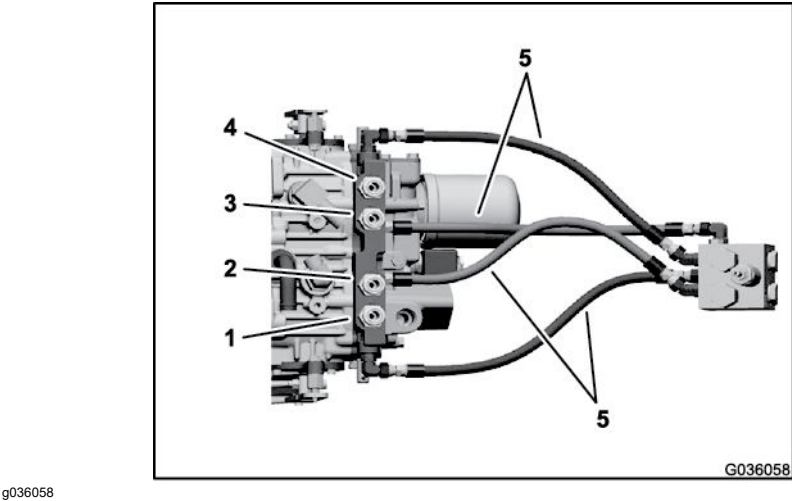

Figure 46
- 5. Clean the transmission area around the traction circuit hoses on the top of the transmission (Figure 46).
- 6. Determine which traction relief valve is to be tested. Disconnect the hydraulic hose from the transmission pump outlet fitting to test the relief valve (Figure 45 or Figure 46):
Note: The pump outlet ports are not identified on the pump housing. Refer to Figure 46 to identify the pump ports.
8. Disconnect the balancing hose from the transmission fitting closest to transmission pump outlet fitting for the relief valve to be tested (Figure 45 or Figure 46). Install a steel cap on the fitting and steel plug in the balancing hose.